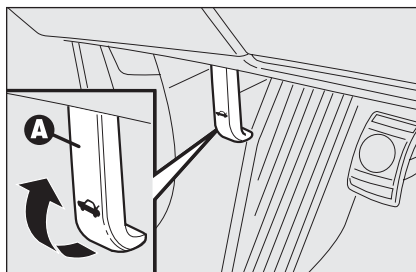

fig. 81
- ☐ pull lever **A-fig. 81** until hearing the releasing click;